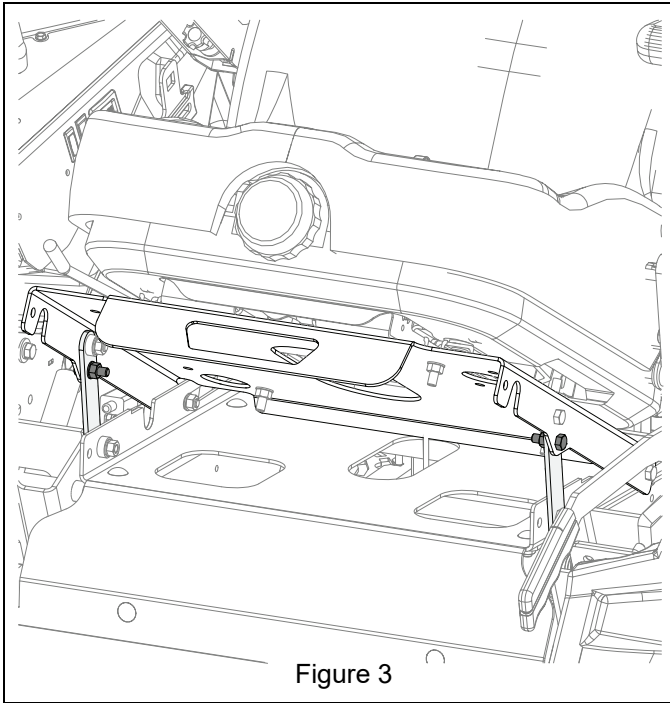

Figure 3
3. Reinstall hardware to lock seat assembly in service position. See Figure 3.
10. Connect red air ride harness (item 2) to red main harness wire and black air ride harness wire to black main harness wire. Main harness wires are labeled "AIR SEAT".
11. Remove and retain hex bolts and locking flange nuts holding seat in service position. See Figure 3.